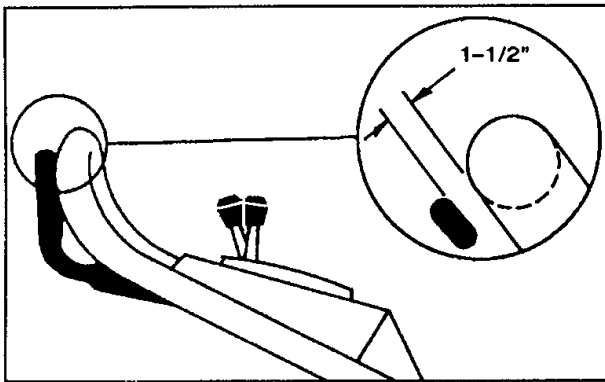

Figure 18
2. Lift control bar until some resistance is felt. Control bar should be 1 1/2" from handle when properly adjusted (Fig. 18).